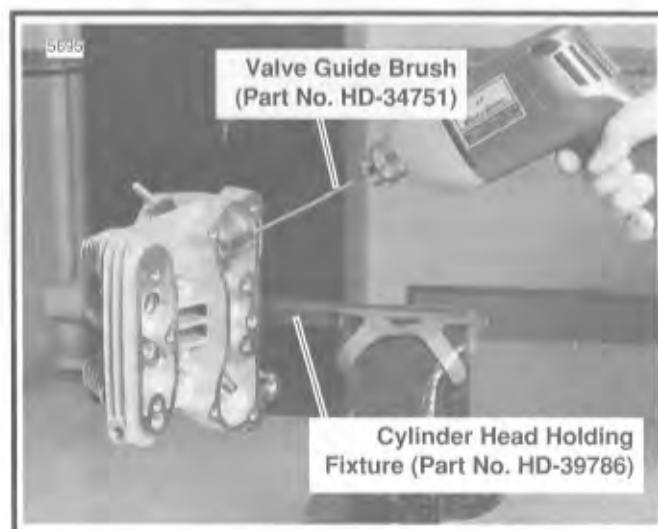

Figure 3-19. Honing Valve Guides
6. See Figure 3-19. Apply the proper surface finish to the valve guide bores using the VALVE GUIDE HONE (Part No. HD-34723). Lubricate hone with honing oil. Driving hone with an electric drill, work for a crosshatch pattern with an angle of approximately 60°.